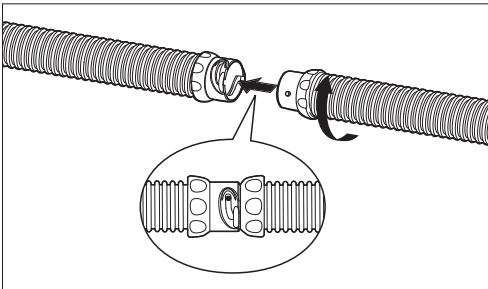

Figure 2. Hose Sections
Push and/or twist the connector on each hose section until they lock into position with a clicking sound (Figure 2). Twist-lock hose cuffs have three (3) connection positions. Any of the three (3) positions are sufficient for an air-tight seal.